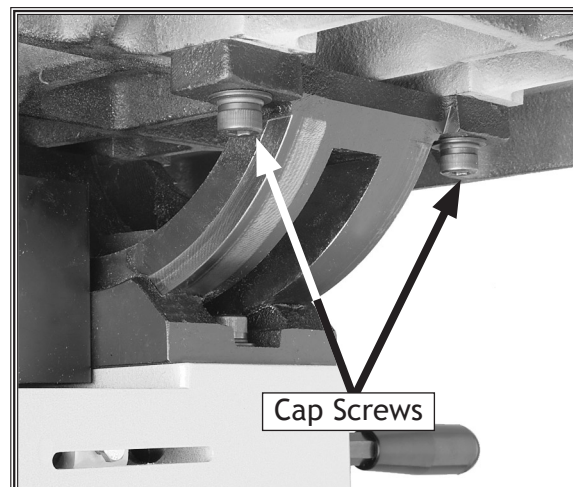

Figure 36. Cap screws securing table to trunnion.
3. Loosen the four trunnion cap screws that secure the table to the trunnions (see **Figure 36**).